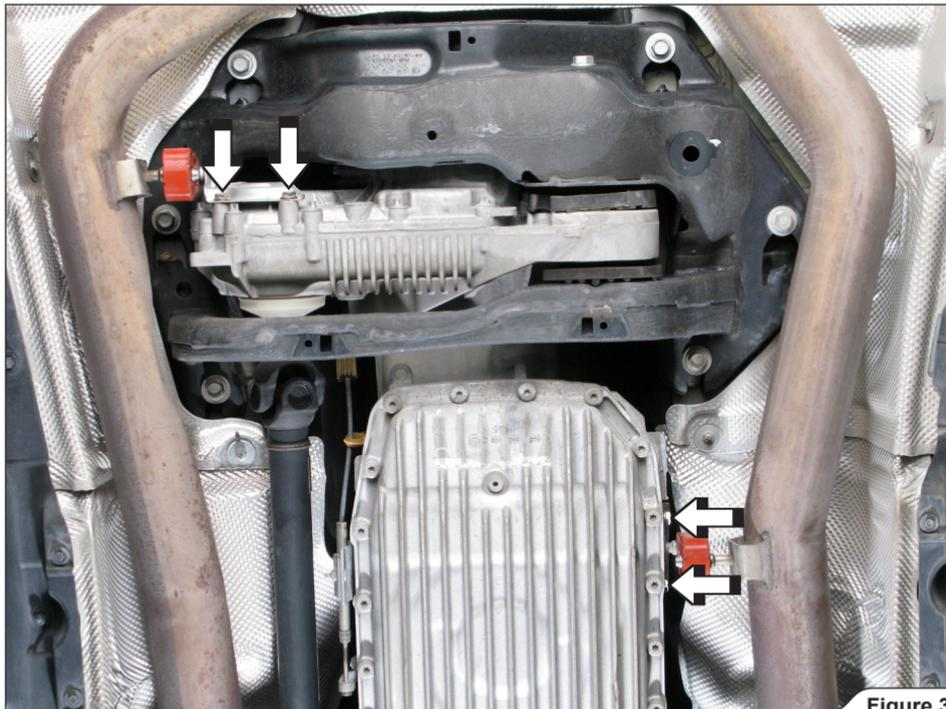

Figure 3
3. Unscrew the front pipes' rubber brackets (**Figure 3**).